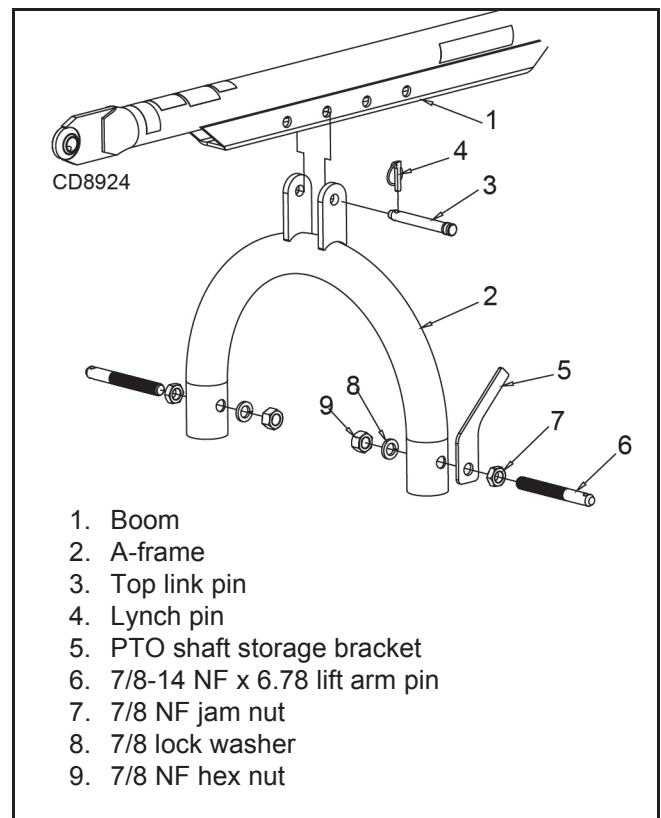

Figure 1. A-Frame to Boom Assembly
1. Connect lift arm pins (6), Figure 1, and hardware supplied with pins to the A-frame assembly (2).